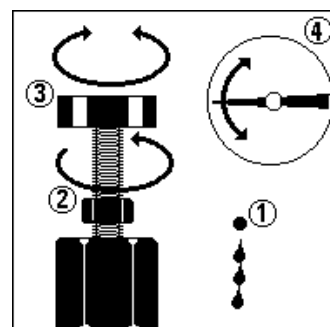

Fig. 10
YAC-B1P1 / YAC-H1P1 are equipped with pressure regulator (Fig. 10) to adjust built-in pressure. First loose the nut (2) and turn on the power. After the lubricant comes out from the pressure relief valve, screw in the knob (1) until pressure build-in in the centralized lubrication system per the user's required pressure. Maximum built-in pressure regulating is limit to the lubrication unit's system pressure. If the user can't regulate pressure, please check lubrication connection where there is a leaking or the adapter is without check valve. After the user complete built-in pressure regulating, tight the nut to fix the pressure regulator in case there is any change by the accident.